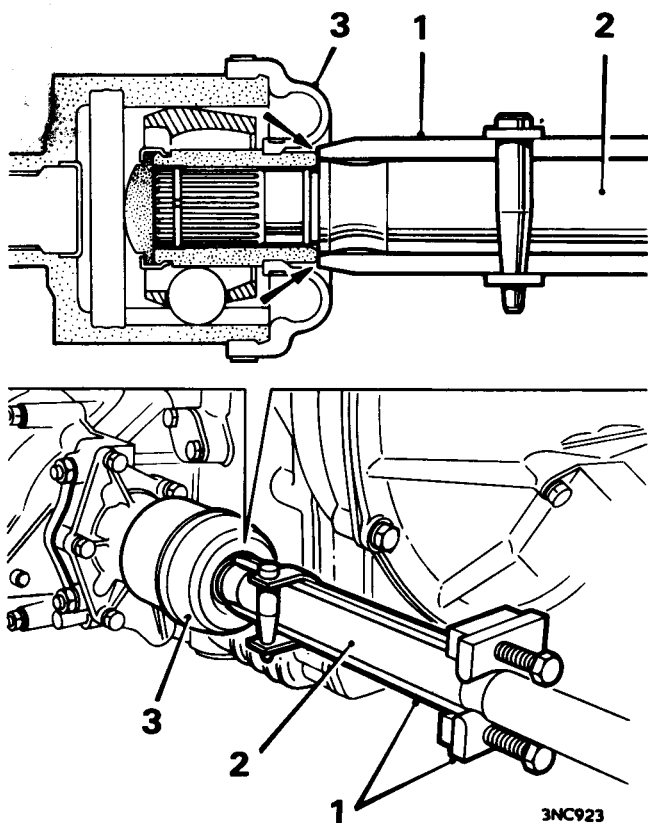

Fig. G.12
7. Assemble Service tool 18G 1243 to the drive shaft with the tool hard against the inboard joint before inserting the taper pin, see Fig. G.12. Insert the 'U' shaped part of the tool into the groove on the shaft, tighten the two bolts evenly until the drive shaft is released from the inboard joint. Remove the tool.